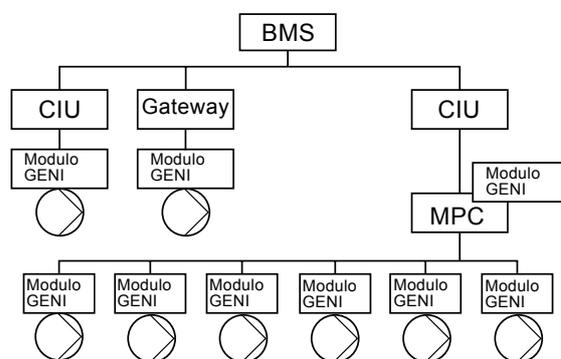

Fig. 16 MAGNA 25-40, 25-60, 25-80, 25-100, 32-40, 32-60, 32-80, 32-100, 40-60, 40-80, 40-100(D), 50-100 in sistemi BMS
- Grundfos MAGNA 25-40, 25-60, 25-80, 25-100, 32-40, 32-60, 32-80, 32-100, 40-60, 40-80, 40-100(D), 50-100. Vedi fig. 16.